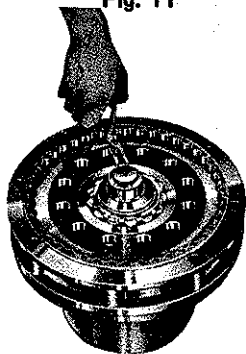
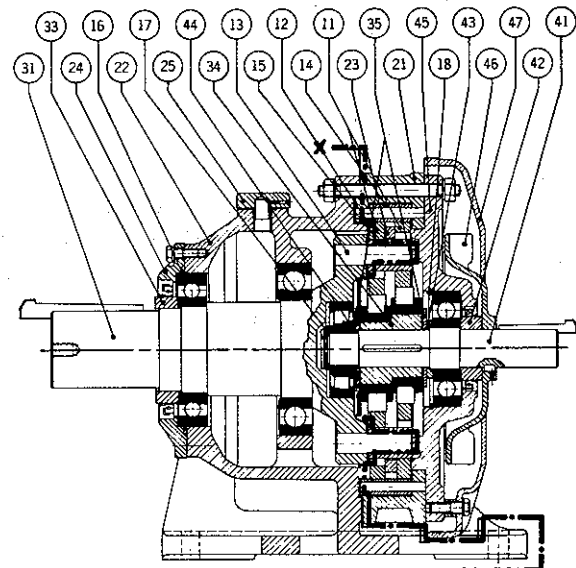

Fig. 10
Fig. 2
- 4) If the unit will not separate easily, gently drive a wedge at the line X...X shown in Fig. 2 on page 8 (if in so doing a burr is produced, be sure to remove it before reassembly).
- 8) Remove the spacer ring (23).
- 9) The eccentric (34) can be removed from the high speed shaft (41) after taking out the retaining ring (17) and the inner bearing raceway (Figs. 10, 11). Note: In certain sizes, the eccentric bearings are roller bearings without a retainer. Remove bearings of the top disc before proceeding with the next step.
- 11) Remove the ring gear housing (21).
- 12) The slow speed shaft (31) with its bearings is removed from the casing (22) as follows: (a) Remove the slow speed end cap (24). (b) With a wooden or hard rubber mallet, rap the inner end of the slow speed shaft to expose the retaining ring (16) from the outer raceway of the bearing. (c) Remove the retaining ring. (d) Rap the outer end of the slow speed shaft with a wooden or hard rubber mallet, and remove it from the casing.
- 13) The high speed shaft (41) with bearings is removed from the high speed end shield (45) by rapping the shaft end after first taking off the retaining ring (18) (Refer to Figs. 2,3).
- 5) Insert the other end plate and the inner bearing raceway. Secure them with the retaining ring (Fig. 10).